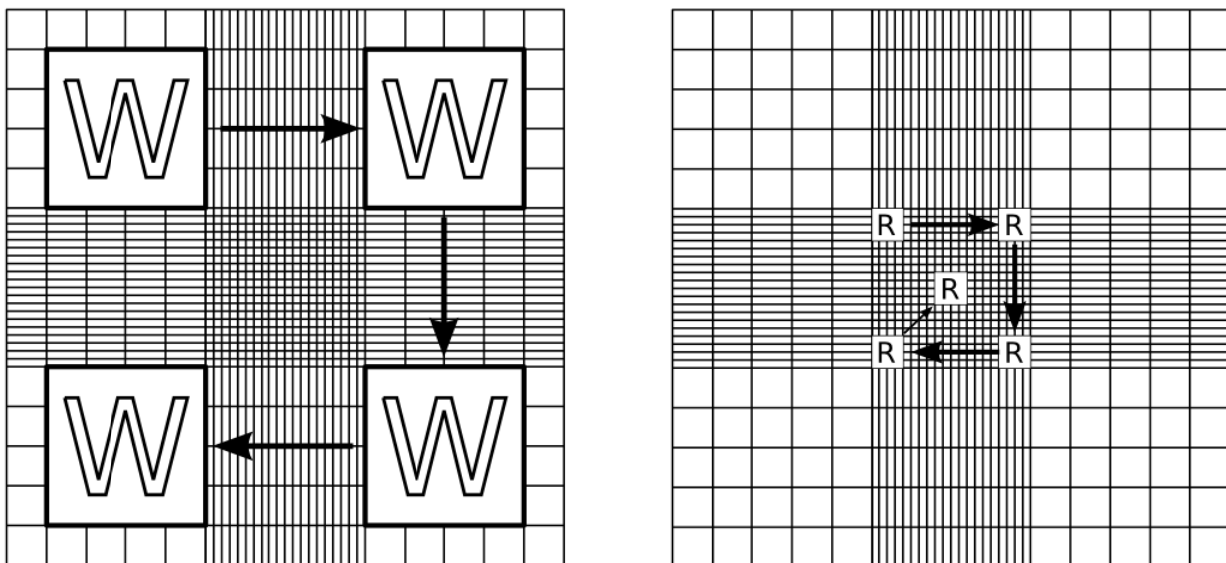

Figure 5: Two Methods for counting using a hemocytometer.
Calculation of concentration is based on the volume underneath the cover slip. One large square (see W in Figure 5) has a volume of 0.0001 ml (length x width x height; i.e., 0.1 cm x 0.1 cm x 0.01 cm). In both methods, the hemocytometer is filled by capillary action - place the pipette filled with a well-suspended mix of cells at the notch at the edge of the hemocytometer and then slowly expel some contents so that the fluid is drawn into the chamber by capillary action.
**Method A:** Count the number of cells in the 4 outer squares (see the left panel of Figure 5). The cell
**Method B:** Estimate cell concentration by counting 5 squares in the large middle square (see the right panel in Figure 5). The cell concentration is calculated as follows: